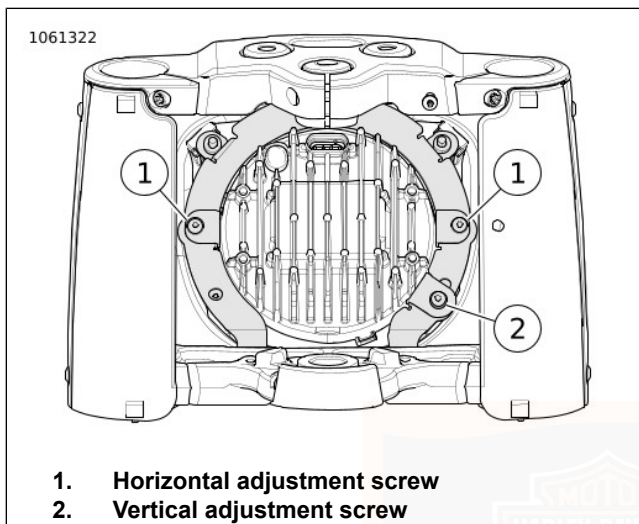

Figure 81. Headlamp Adjustment
1. See Figure 81. Rotate horizontal adjustment screw (1). Adjust headlamp horizontally to direct light beam straight ahead.
2. Rotate vertical adjustment screw (2). Adjust headlamp vertically until beam centers on horizontal line.